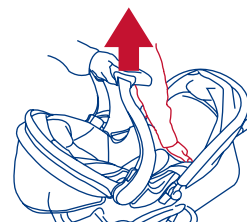

Fig. 19
19) • To remove the Infant Car Seat, disengage Short Clip and squeeze the release handle located at the foot-end of the seat and carefully lift upward on the seat (Fig. 19).